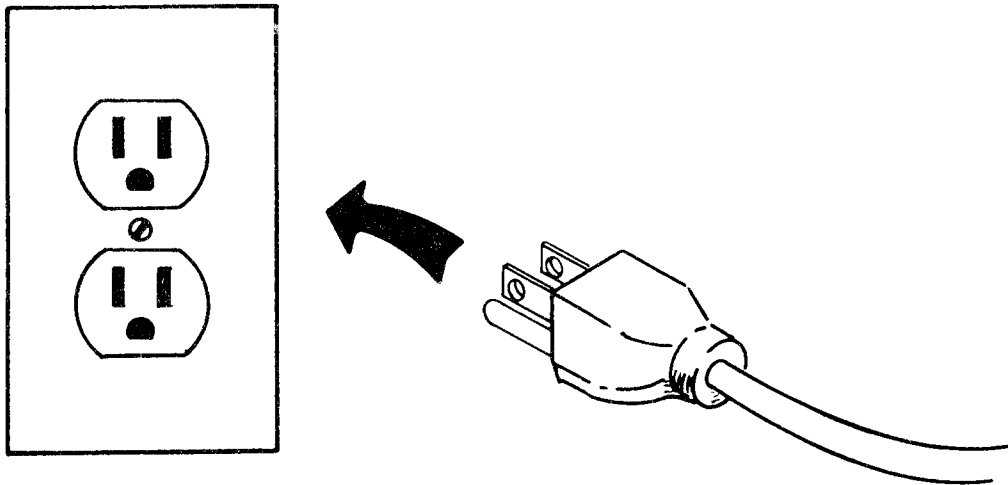

Figure 47. Plug Power Cord Into Power Source
- d. Plug the power cord into a power source (see Figure 47).